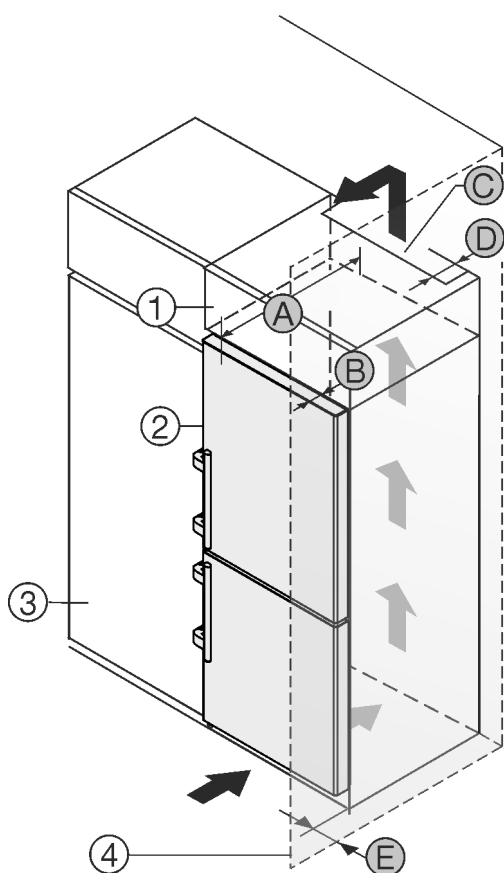

Fig. 26
The appliance can be built into kitchen units. A top cupboard Fig. 26 (2) can be added above the appliance in order to bring the appliance Fig. 26 (1) up to the height of the fitted kitchen units.
The appliance can be installed right next to the kitchen cabinet Fig. 26 (3). The appliance must protrude by depth Fig. 26 (B) from the front of the cabinet so that the doors can be opened fully. The appliance may protrude further depending on the depth of the kitchen cabinets and whether wall spacers are used.
- At the back of the top cabinet, there must be an air outlet shaft with depth Fig. 26 (D), spanning the entire width.
- The ventilation shaft Fig. 26 (C) must be observed under the ceiling.
If the appliance is installed with the hinges next to a wall Fig. 26 (4), the distance Fig. 26 (E) between the appliance and the wall must be observed. This is how far the handle protrudes when the door is open.